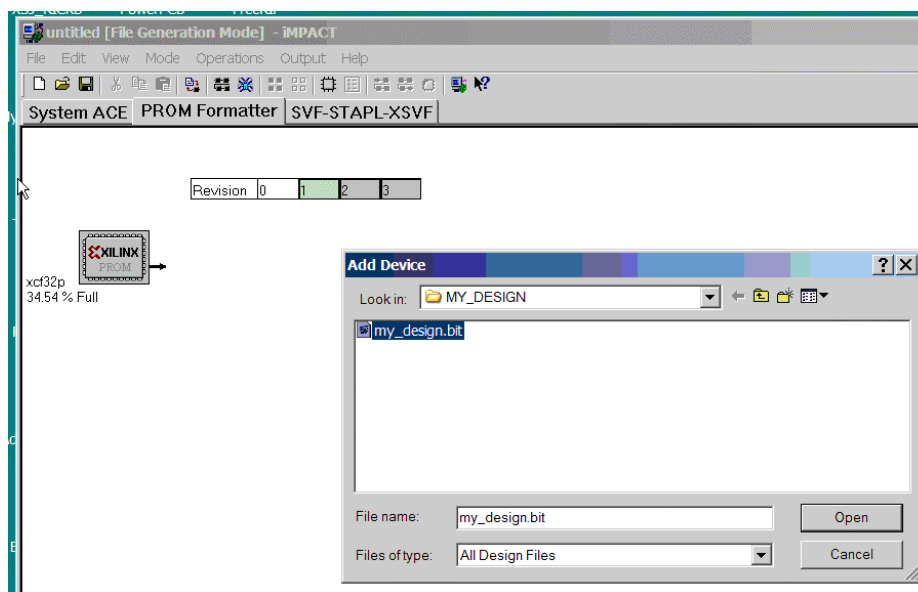

Figure B-8: Adding the Design File to Revision 1
- Once you answer No when prompted to add another design file to Revision 0, the green revision highlight will move to Revision 1. You will be prompted to add your design file to Revision 1 as shown in Figure B-8.